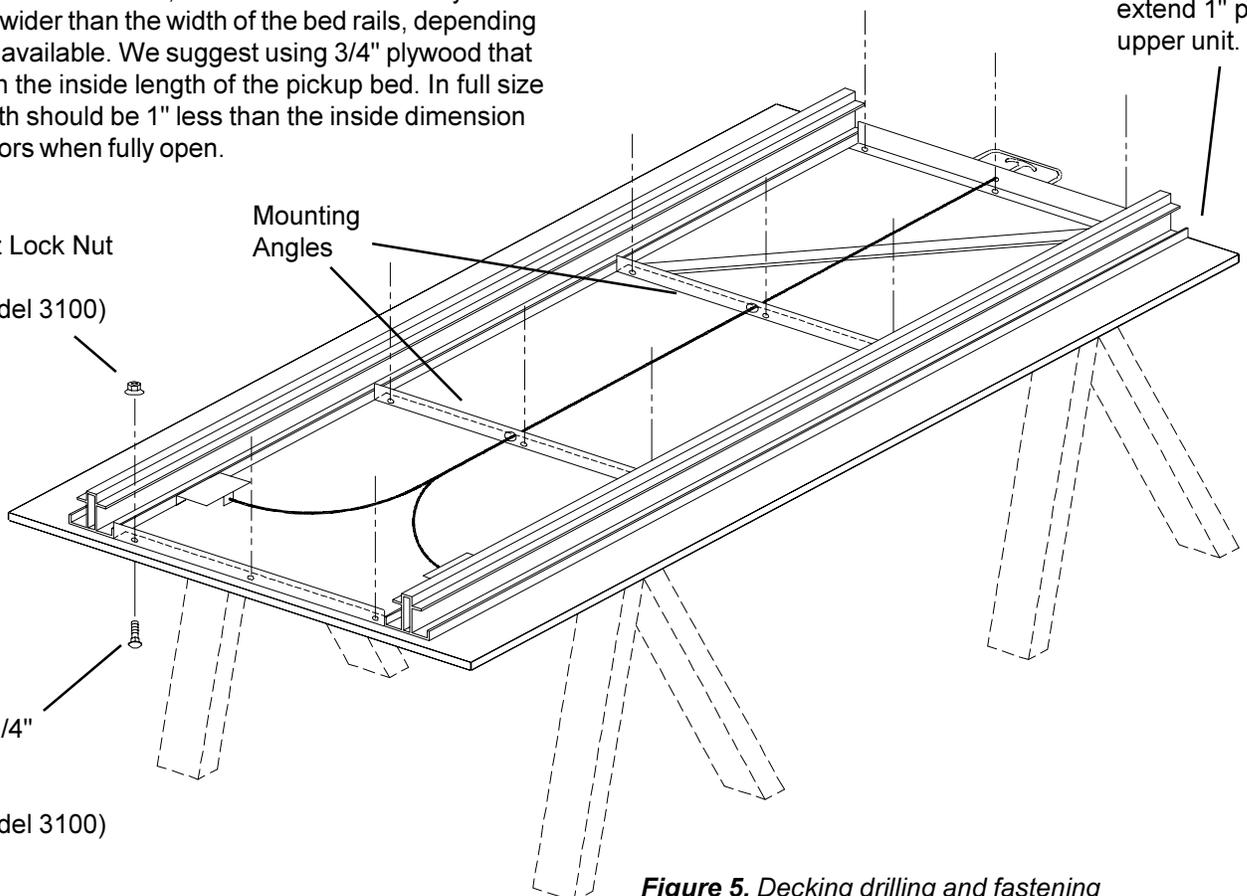

Figure 5. Decking drilling and fastening
6. Lay the decking material across two sawhorses. With the help of another person, place the Deck Assembly upside down on the deck material, 1" from the rear edge, and centered side to side. Using the Deck Assembly mounting angle holes as a drilling template, drill 5/16" holes through the deck material. Bolt the Deck Assembly to decking material (see Figure 5.).